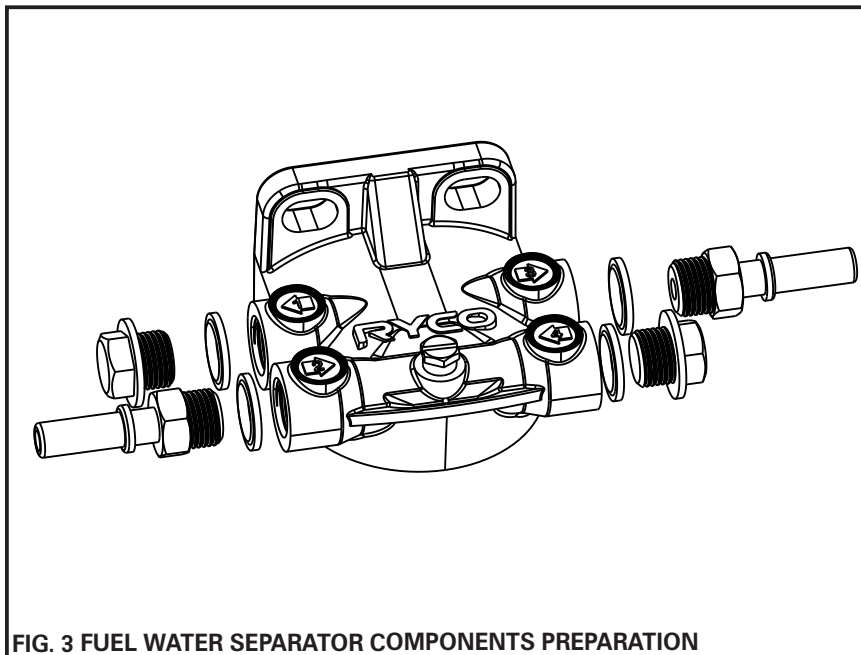

FIG. 3 FUEL WATER SEPARATOR COMPONENTS PREPARATION
1. Install the Ryco fuel water separator head with metal quick connectors, blanking plugs and rubber bonded washers, as per Fig 3. Tighten blanking plugs and quick connectors.